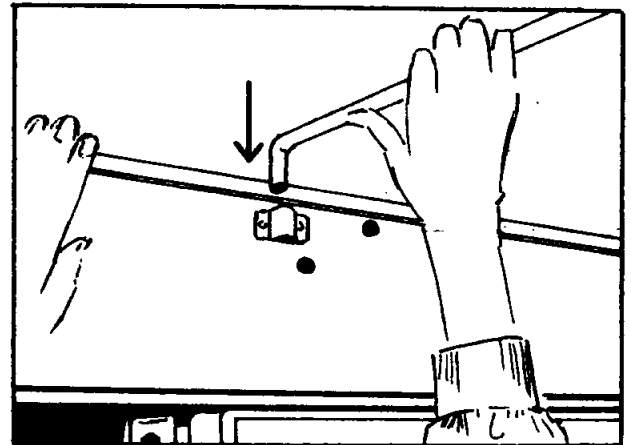

FIGURE 22
28. While holding wall steady, open the doors and enter the bathroom area. While continuing to hold the wall steady with one hand, remove one support rod from its retaining clip against the front interior top assembly and insert the rounded end into the nearest retainer located on the bathroom wall assembly. Finish securing the wall by fastening the other two retainer rods from the top assembly to their appropriate retainers on the bathroom wall. See Figure 22.